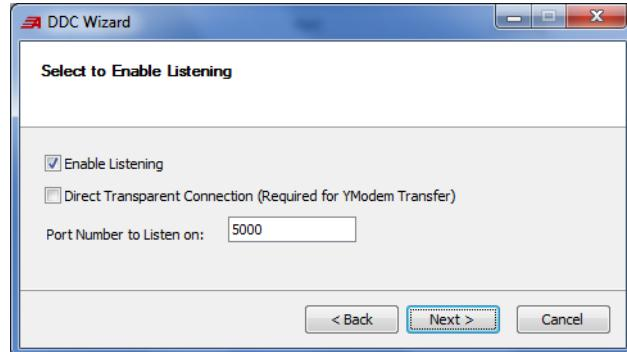

Figure 140 Enable Listening
- Step 4. Once the DDC Wizard launches, select **Next**, choose a **Telnet** connection, and then select **Next** again. Select the **Enable Listening** check box as shown in *Figure 140*. In the **Port Number to Listen on** text box, enter 5000. This is the same port number entered ACCELERATOR RTAC for the **Client IP Port** in Step 3 of Part 1: Configuration in ACCELERATOR RTAC. Complete the DDC Wizard and save your changes.